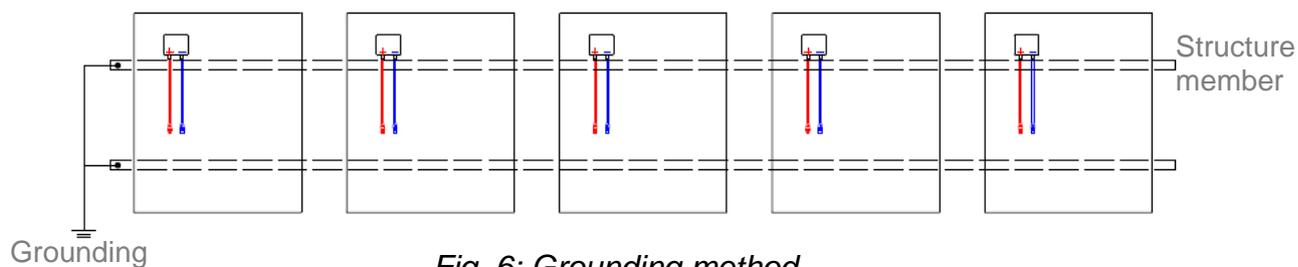

Fig. 6: Grounding method
- Support structure member must apply grounding (Fig. 6).